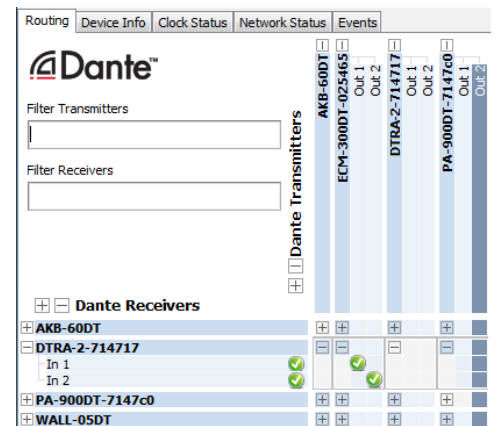

Fig. 4 Routing from ECM-300DT to DTRA-2
- 1) Under "Routing" in the window "Network View", click to open the channels of the desired unit under "Dante Transmitters" and the channels of the desired connection partner under "Dante Receivers" (see fig. 4).